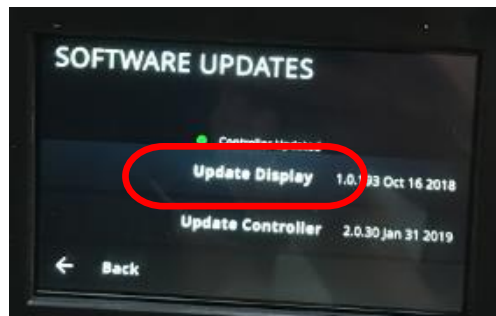

Figure E6: Software Update Screen with Update Display Circled.
5. Select UPDATE DISPLAY. See Figure E6.